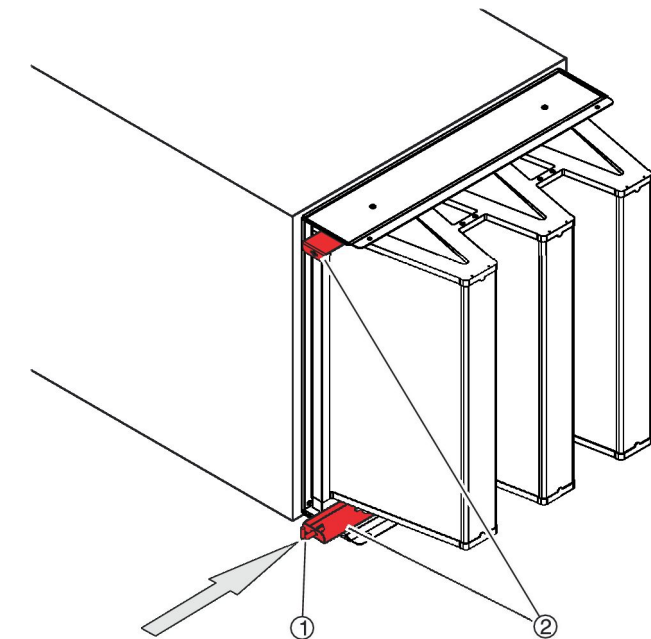

Fig. 61: Pushing the clamping rails in
7. ▶ Use the special key (Fig. 61 /1) to push the clamping rails (Fig. 61 /2) in as far as they will go.